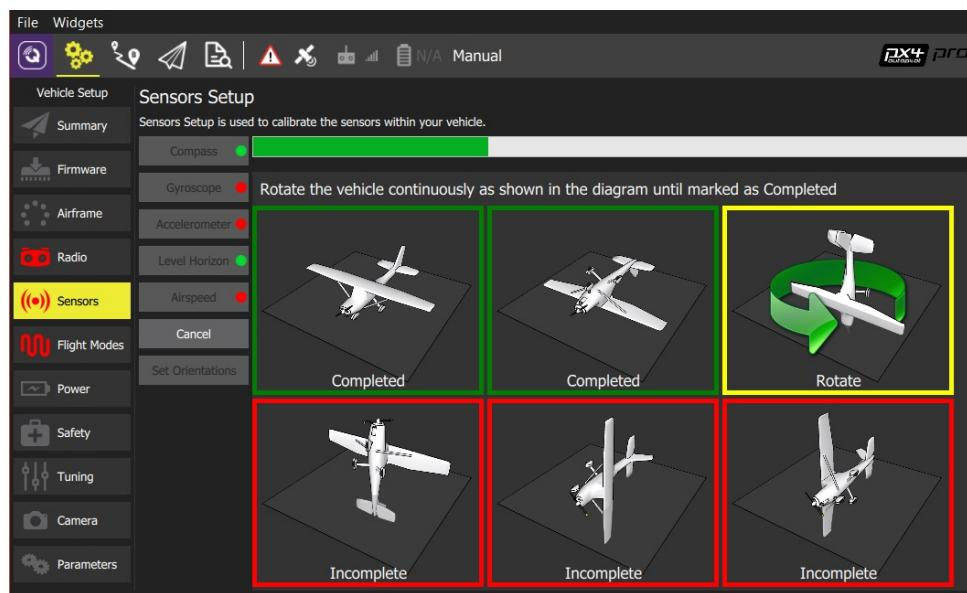

Figure 3.13: Select Compass calibration PX4
6. Place the vehicle in any of the orientations shown in red (incomplete) and hold it still. Once prompted (the orientation-image turns yellow) rotate the vehicle around the specified axis in either/both directions. Once the calibration is complete for the current orientation the associated image on the screen will turn green. See figure 3.13.